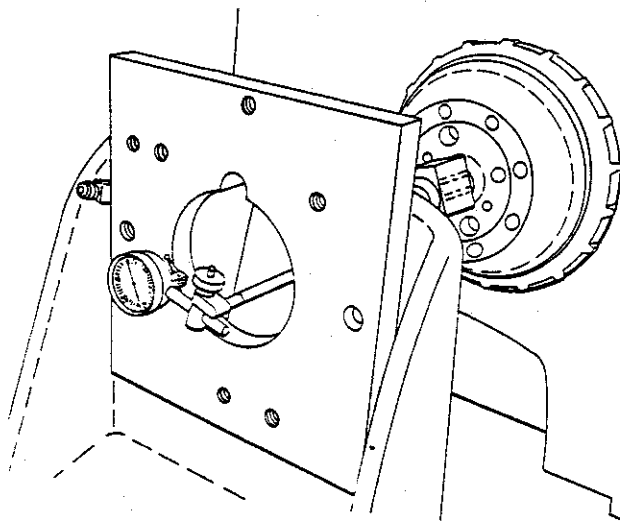

Figure 6-19. Test Bench Angular Alignment
- g. Angular Alignment (Figure 6-19). The pump mounting bracket front face must be held within 0.010 in. Total Indicator Reading with the outboard end of the test stand drive shaft. With the same set up as parallel alignment, extend the dial indicator to the front face of the mounting bracket. Depress indicator approximately 0.010 in. and set to "zero". Rotate the test stand drive shaft 360° by hand while watching the indicator. Should the measurement exceed 0.010 in., shim the bracket mounting sup-